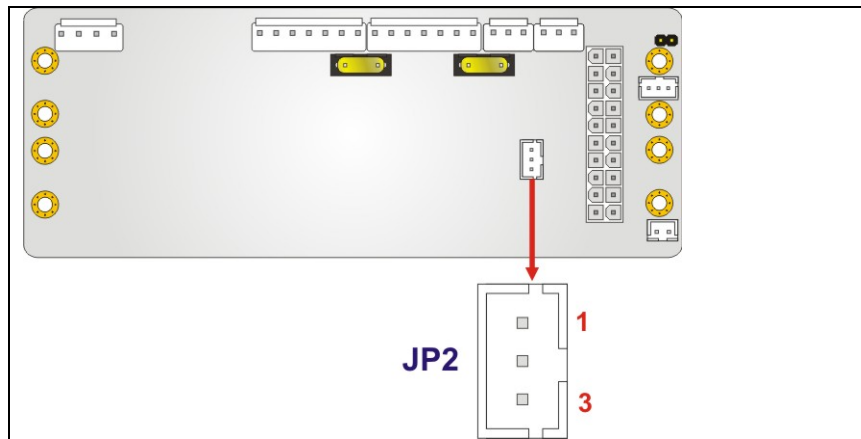

Figure 4-10: RS-232 Cable Connector Location
- CN Location:** See **Figure 4-10**